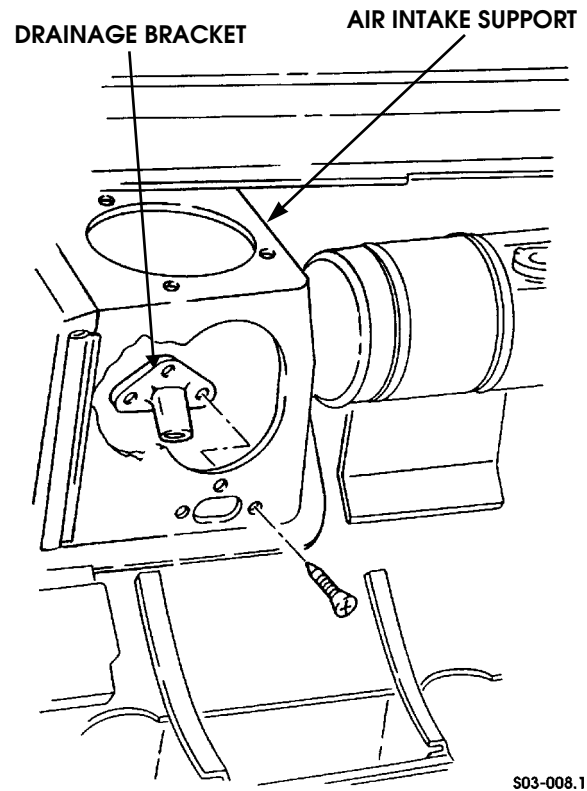

Figure 3-27: Drainage Bracket Location
2. Remove three screws and drainage bracket from body (Figure 3-27).
1. Position drainage bracket on body and install bracket screws (Figure 3-27).